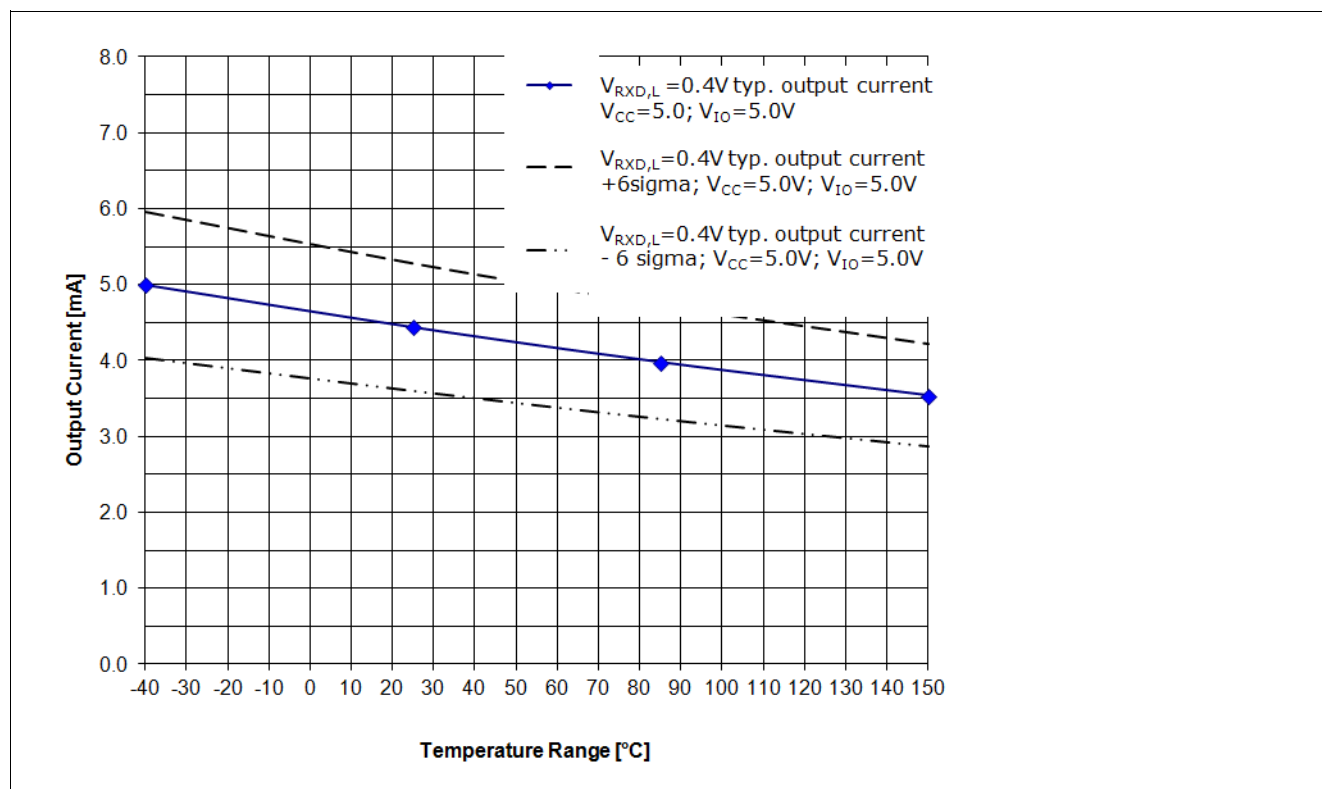
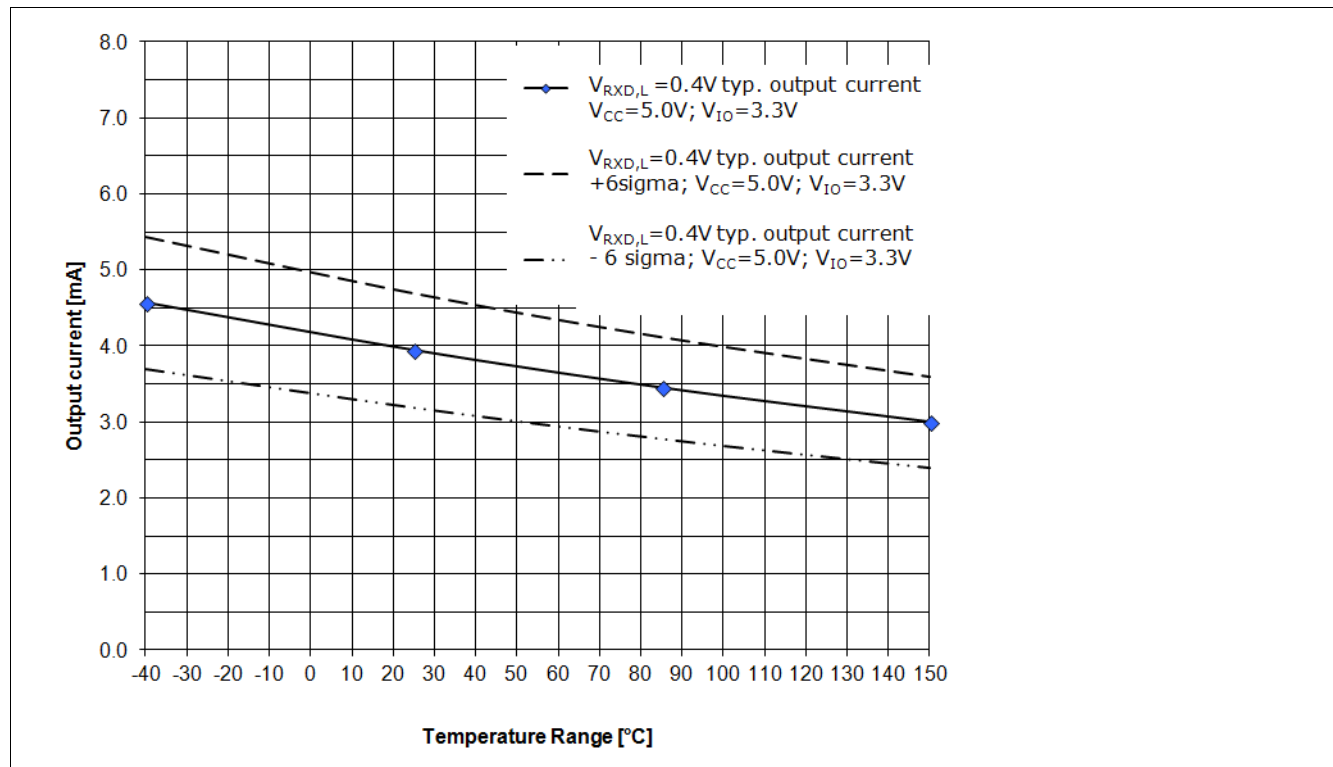

Figure 13 RxD Output driver capability for a logical "Low" signal $V_{RxD,H} = 0.4V$, $V_{CC} = 5.0V$, $V_{IO} = 5.0V$ ¹⁾
Figure 14 RxD Output driver capability for a logical "Low" signal $V_{RxD,H} = 0.4V$, $V_{CC} = 5.0V$, $V_{IO} = 3.3V$ ¹⁾
The diagram in Figure 13 and the diagram in Figure 14 show the current capability of the RxD output pin depended on the chip temperature T_J . Figure 13 shows the current capability of the RxD output pin at a V_{IO} power supply of 5.0 V and Figure 14 shows the current capability of the RxD output pin at a V_{IO} power supply of 3.3 V.
- The curve “VRxD,H = 0.4 V; **typ. output current**; VCC = 5.0 V; VIO = 5.0 V;” displays the typical output current at the RxD output pin of the TLE8250GVIO (see Figure 13).
- The curve “VRxD,H = 0.4 V; **typ. output current + 6 sigma**; VCC = 5.0 V; VIO = 5.0 V;” displays the expected maximum value of the output current at the RxD output pin (see Figure 13).
- The curve “VRxD,H = 0.4 V; **typ. output current - 6 sigma**; VCC = 5.0 V; VIO = 5.0 V;” displays the expected minimum value of the output current at the RxD output pin (see Figure 13).
- The curve “VRxD,H = 0.4 V; **typ. output current**; VCC = 5.0 V; VIO = 3.3 V;” displays the typical output current at the RxD output pin of the TLE8250GVIO (see Figure 14).
- The curve “VRxD,H = 0.4 V; **typ. output current + 6 sigma**; VCC = 5.0 V; VIO = 3.3 V;” displays the expected maximum value of the output current at the RxD output pin (see Figure 14).
- The curve “VRxD,H = 0.4 V; **typ. output current - 6 sigma**; VCC = 5.0 V; VIO = 3.3 V;” displays the expected minimum value of the output current at the RxD output pin (see Figure 14).